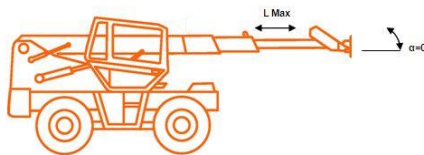
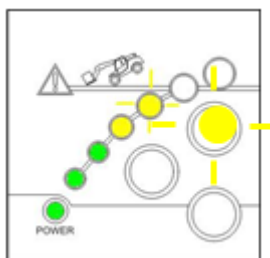

Figure 3.2.35
Figure 3.2.36
7) Step 7: make the telescopic handler reach the state as shown in Fig. 3.2.35, that is, the boom is in the state of full horizontal extension and not supporting the outrigger. Press once to OK button. The indicator changes to the state as shown in Figure 3.2.36. The indicator of outrigger in proper position is flashing.